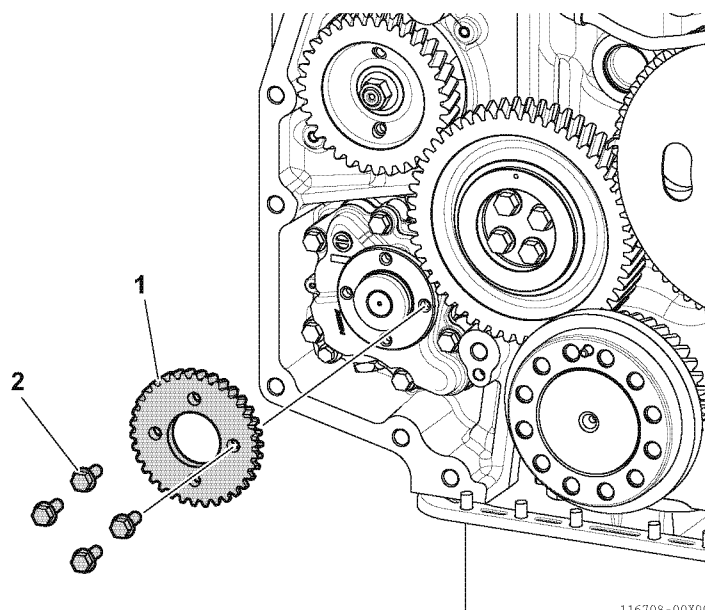

Fig.30-13
3. Install the lubricating oil pump drive gear (1, Fig.30-13) and tighten the bolts (2, Fig.30-13) to the specified torque.